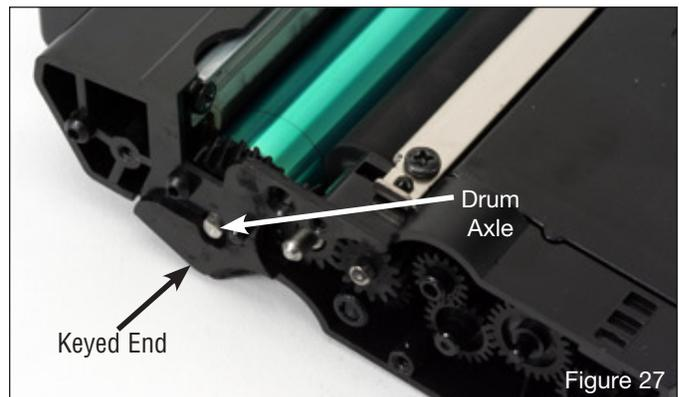

Figure 27
5. Slide the drum axle through the geared side of the drum. See Figure 27. Make sure the keyed end is oriented as it was removed. It should be on the geared side.
- Secure the gear side end plate with three screws as shown in Figure 27.